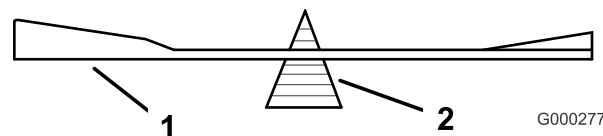
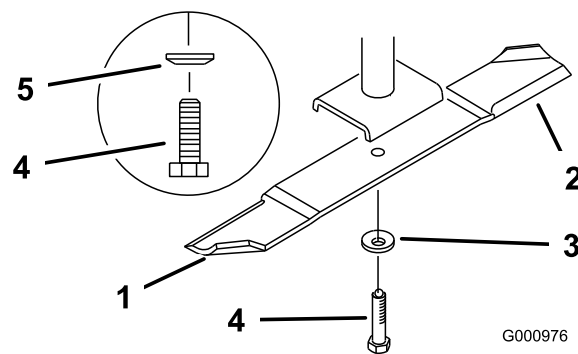

Figure 81
Figure 82
2. Remove the blade bolt, spring disk and blade from the spindle shaft (Figure 82).
2. Check the balance of the blade by putting it on a blade balancer (Figure 81). If the blade stays in a horizontal position, the blade is balanced and can be used. If the blade is not balanced, file some metal off the end of the sail area only (Figure 82). Repeat this procedure until the blade is balanced.
1. Install the blade onto the spindle shaft (Figure 82).
2. Install the spring disk and blade bolt. The spring disk cone must be installed toward the bolt head (Figure 82). Torque the blade bolt to 85-110 ft-lb (115-150 N-m).